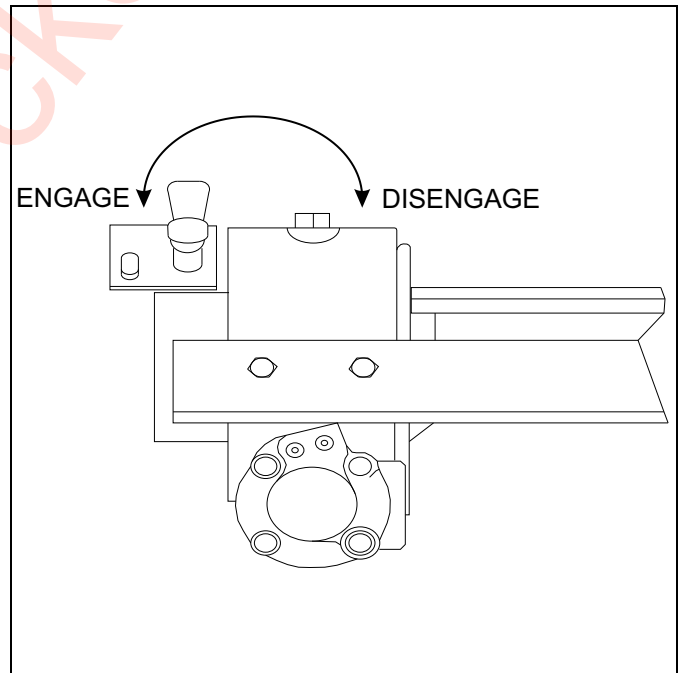
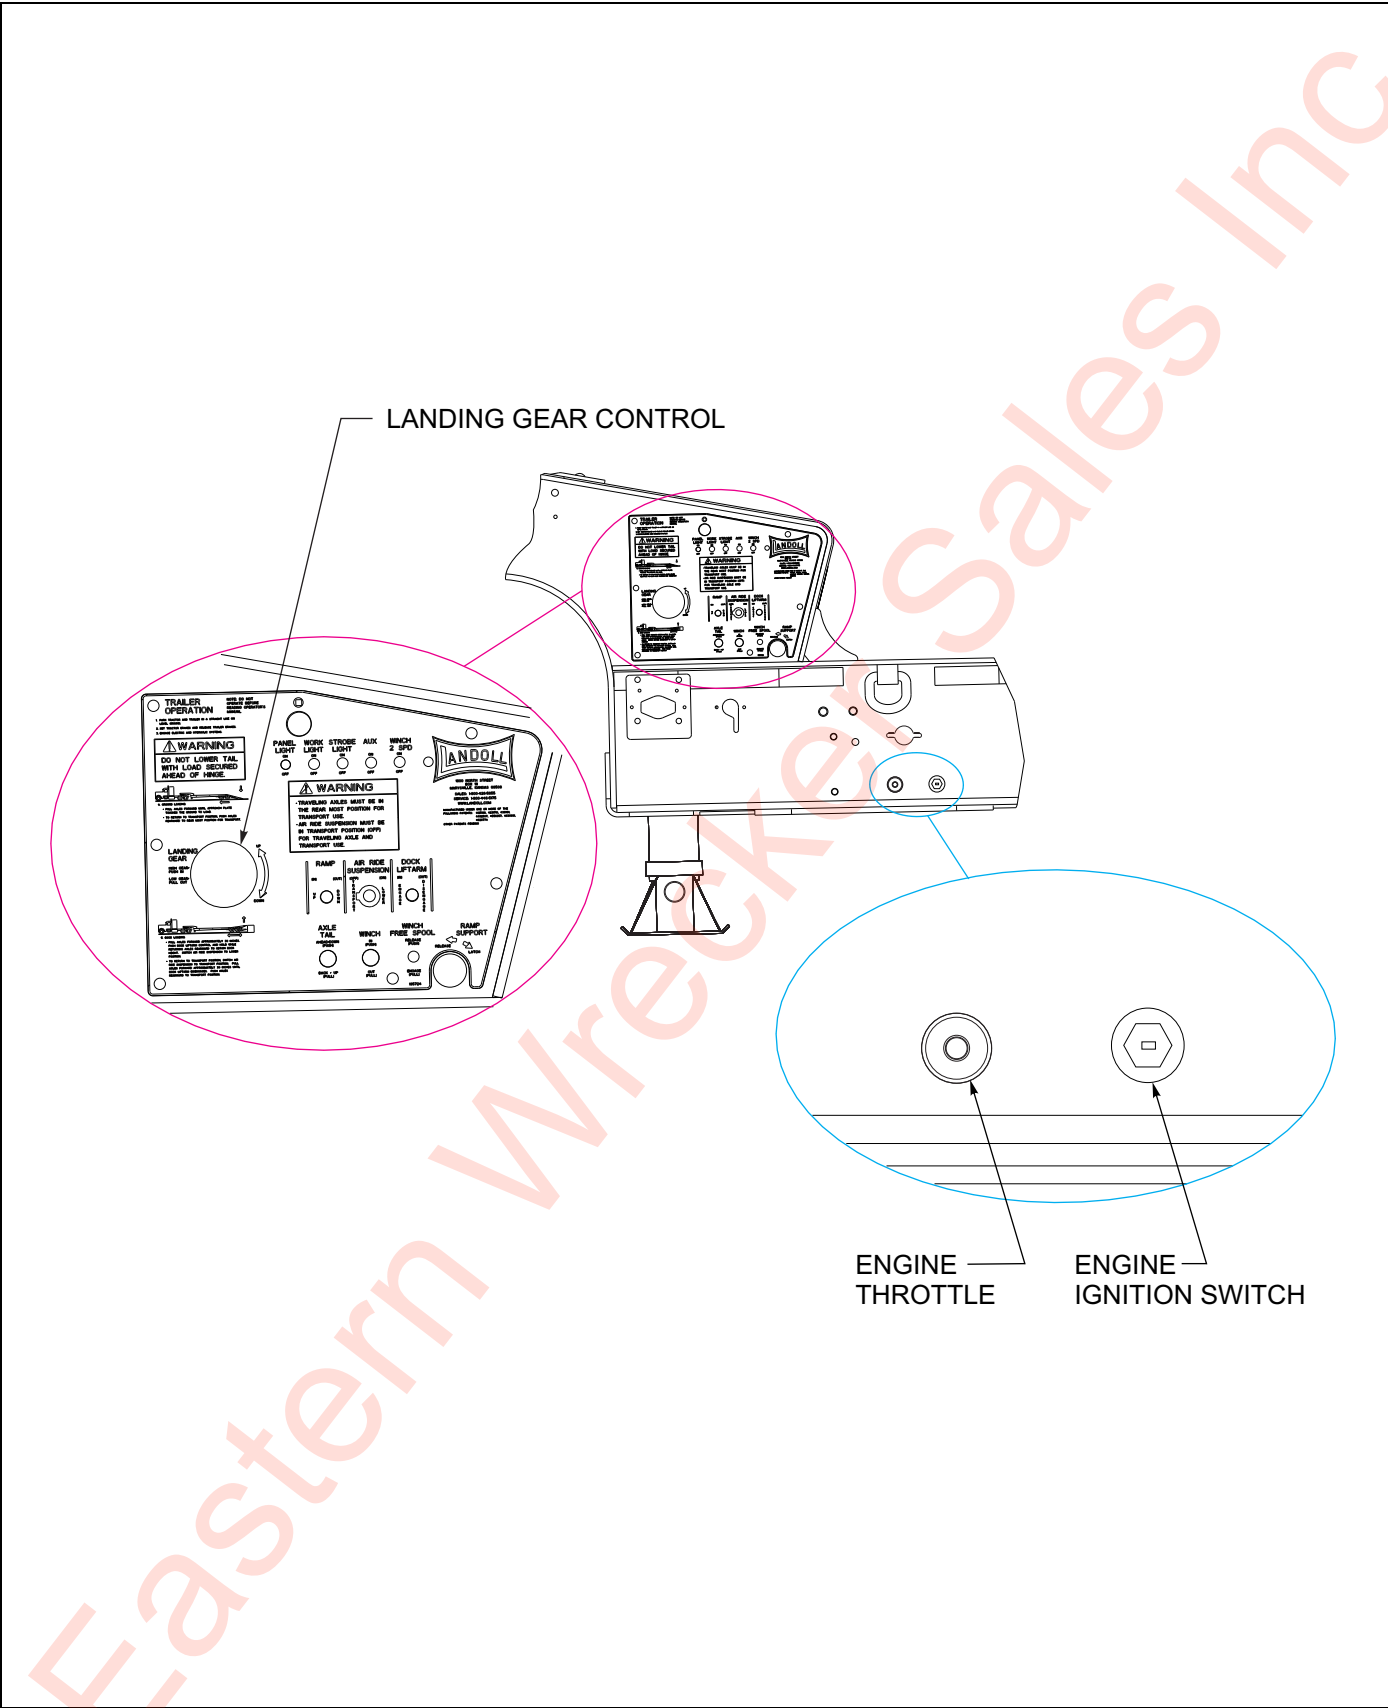

Figure 3-8: Braden - 20,000# Winch Manual Clutch
Figure 3-11: Hydraulic Engine Package Control Panel (Option)
2. The Engine Ignition Switch is located below the hydraulic controls, and behind them on the driver's side of the semitrailer (See Figure 3-11.) Use the key to start and stop the Hydraulic Power Supply Engine. This switch has three positions: (See Table 3-7.)
3. The Hydraulic Power Supply Engine Throttle is located to the right on the driver's side of the semitrailer (See Figure 3-11.) The Engine Throttle controls the speed at which the engine operates. It is a variable position control (See Figure 3-8.)